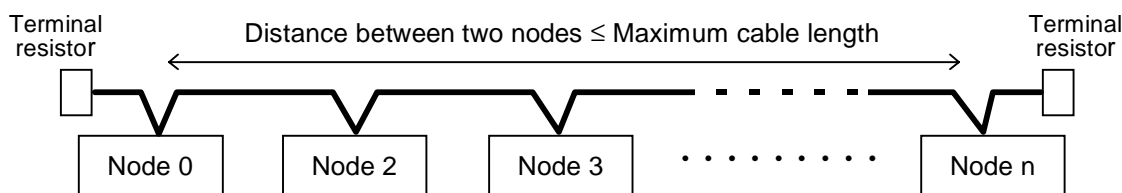

Figure 1.5 Distance Between Two Nodes on a Network With No Drop Line
- a) Table 1.2 lists the maximum cable length for the case that the trunk line consists of a Thick Cable alone and no drop line is connected on it (that is, all nodes are connected on the trunk line), as shown in Figure 1.5. In this case, "maximum trunk line length between node 0 and node n" = "maximum cable length."